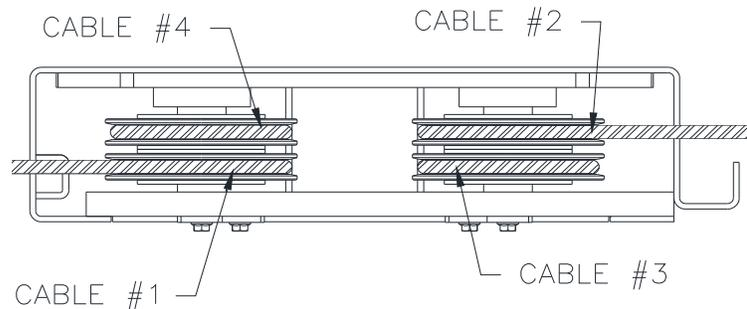

Fig 6 – Power Runway 4-Stack (Rear View)
- 2) Unpack lift. Remove all packaging from Power Runway (power runway has four cable sheaves at rear end) and pull threaded cable ends out. Make sure the cables are in the proper sheaves at the 4-stack, **Fig 6**.
- 12) From the rear, route cable #1 from the bottom of the left sheave stack through the access hole and up out the left end of the rear cross beam. Repeat for cable #2 from the top of the right rear sheave stack through the access hole and up out the right rear of the rear cross beam, **Fig 6 & 7. MAKE SURE THE CABLES ARE NOT TANGLED WITH THE LOCK RELEASE ROD INSIDE THE CROSSBEAM.**